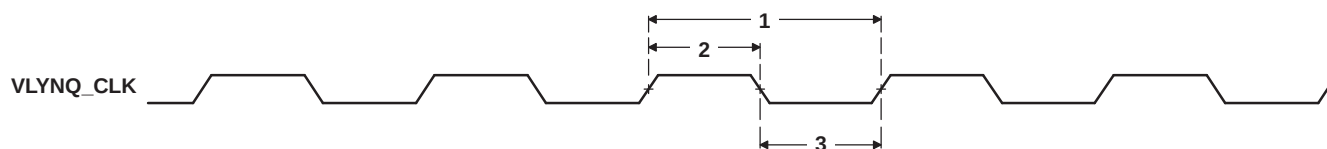

**Figure 6-48. VLYNQ\_CLK Timing for VLYNQ**
**Table 6-92. Timing Requirements for VLYNQ\_CLK Input (see Figure 6-48)**
**Table 6-93. Switching Characteristics Over Recommended Operating Conditions for VLYNQ\_CLK Output (see Figure 6-48)**